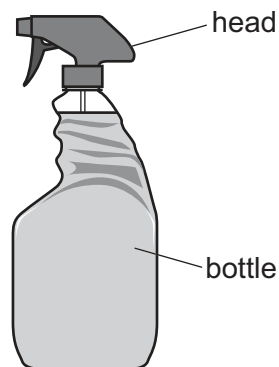

Fig. 4.1
- 4 Fig. 4.1 shows a spray bottle with parts made from two different plastics.